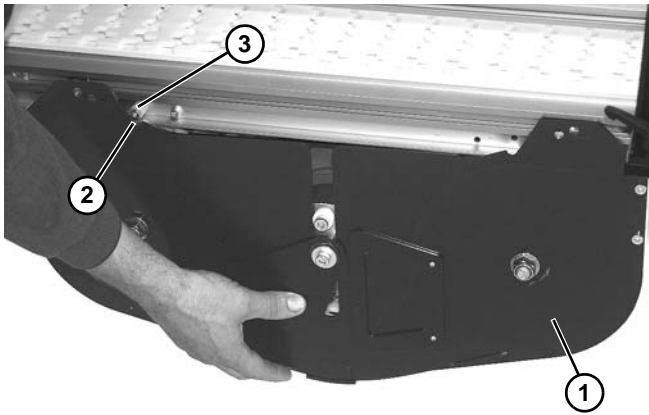

Figure 61
4. Raise weighted take up assembly (**Figure 61, item 1**) with notch (**Figure 61, item 2**) in assembly mating with stud (**Figure 61, item 3**) on conveyor frame.